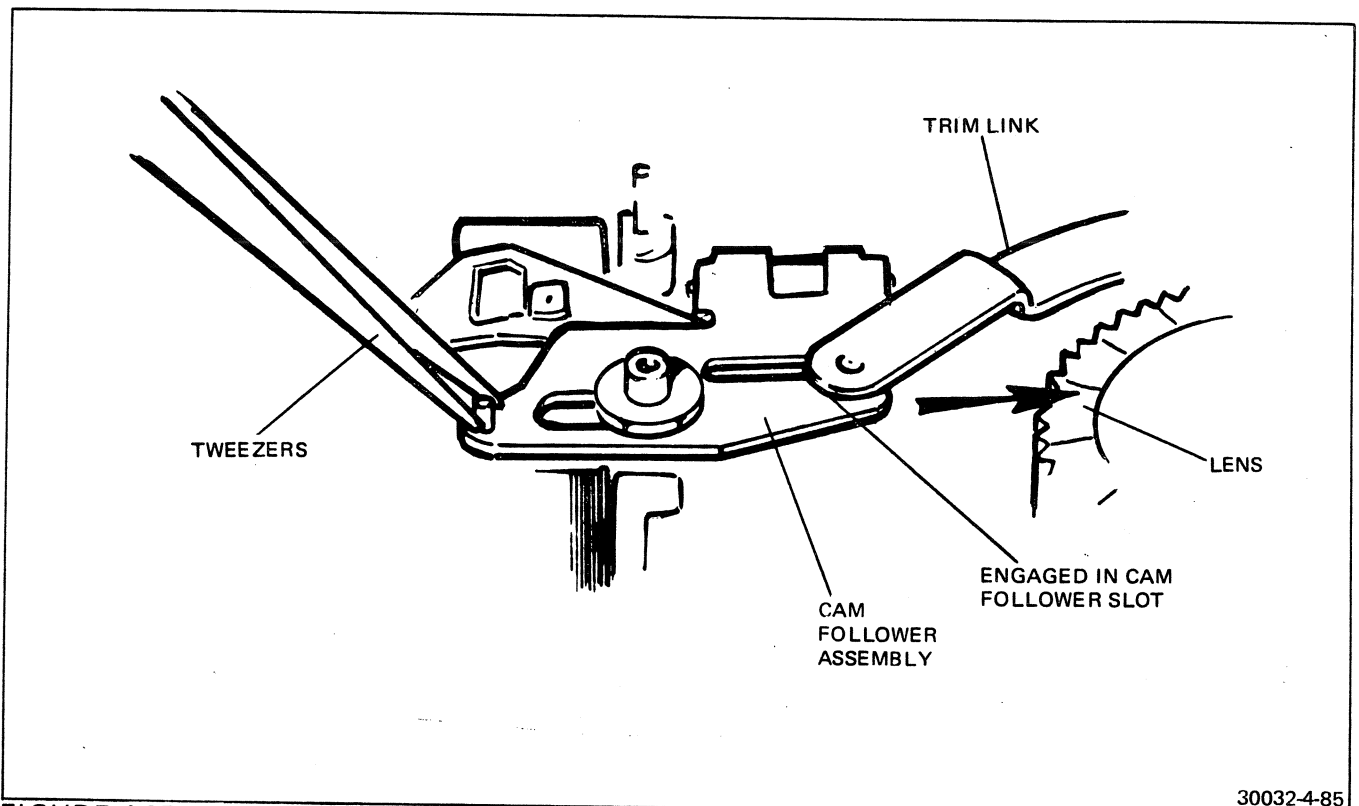

FIGURE 4-85 MOVING FOLLOW-FOCUS PIN
- ae. Place the trim-link over the standoff and engage the pin with the slot in the cam follower (Figure 4-85).